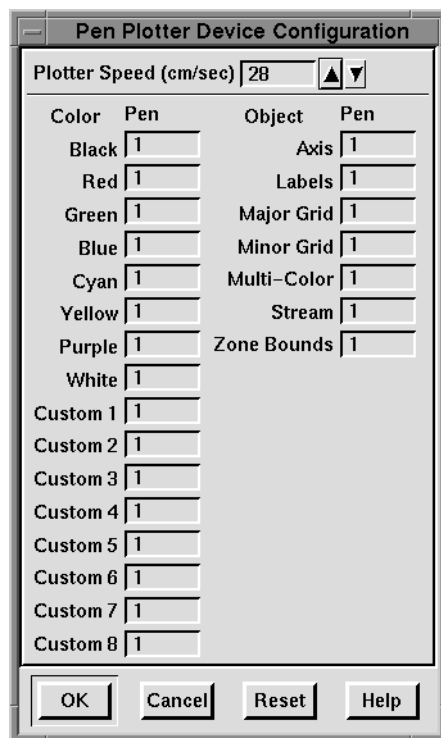

Figure 22-5. The Pen Plotter Device Configuration dialog. (Motif only.)
22.3.2.5. Configuring Pen Plotters. If you are using a pen plotter, you can use the Pen Plotter Device Configuration dialog shown in Figure 22-5 to specify plotter speed and pen assignments for particular colors and Tecplot object types. You access this dialog by clicking Pen Plotter on the HP-GL page of the Print Setup dialog. You can associate each of Tecplot’s basic colors with any of the plotter’s pens.